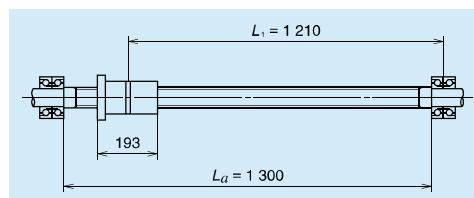

Fig. 16.4 Examination of buckling load
(1) Permissible axial load
Calculate the buckling load for conditions shown in Fig. 16.4 with P of 10 354 (N) and L_t of 1 210 (mm).